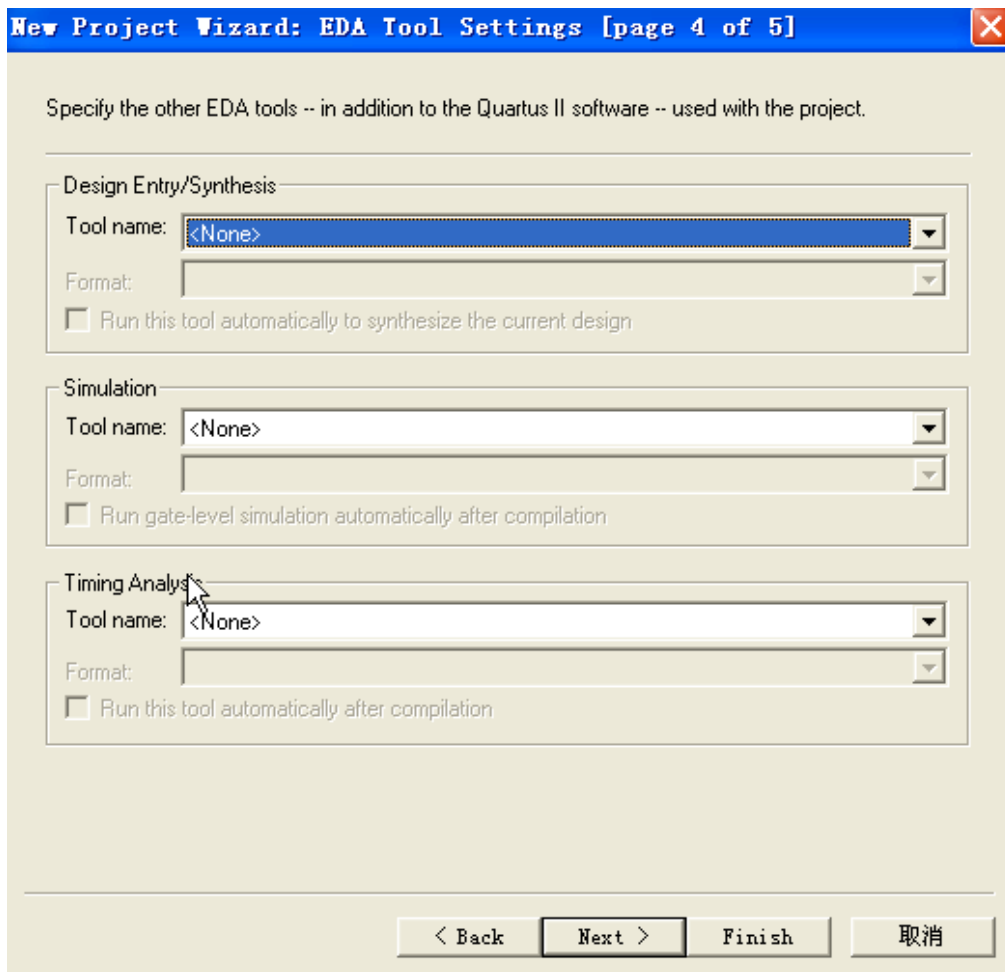

Figure 9. Other EDA tools can be specified.
4. We have to specify the type of device in which the designed circuit will be implemented. Choose Cyclone IV as the target device family. We can let Quartus II software select a specific device in the family, or we can choose the device explicitly. We will take the latter approach. From the list of available devices, choose the device called EP4CE115F29C7 which is the FPGA used on Altera's DE2-115 board. Press "Next", which opens the window in Figure 9.